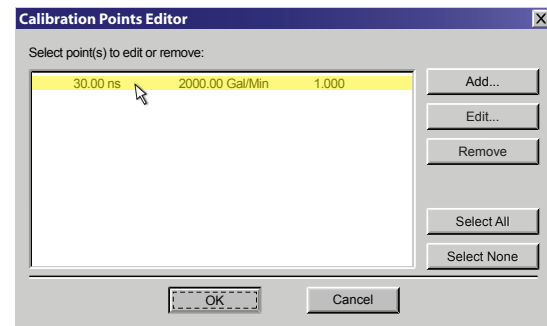

Figure 16: Calibration page 3 of 3
5. If a calibration point is displayed in *Calibration Points Editor*, record the information, then highlight and click **Remove**. See *Figure 16*.